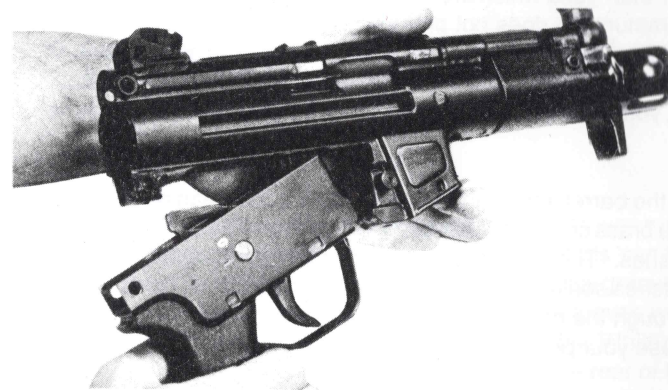

Figure 19A
5. Seat the front bottom edge of the grip assembly on the shelf or the back of the magazine well. Swing the grip assembly up onto the receiver. (Figure 19A)